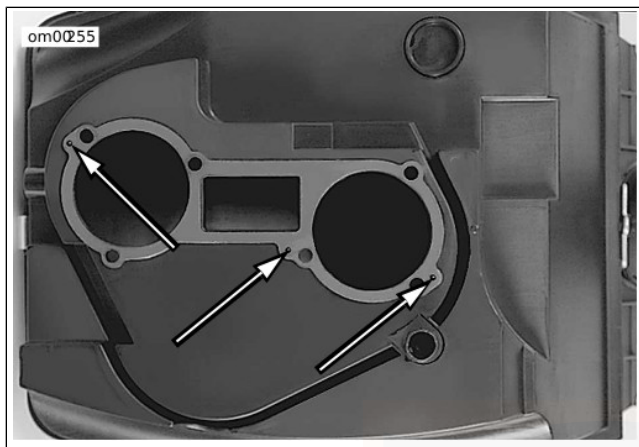

Figure 56. Air Cleaner Gasket and Alignment Pins
12. See Figure 56. Inspect the gasket on the bottom of the air box tray. The gasket is located by the three alignment pins on the mating surface.
16. See Figure 56. Align the index marks. Install the velocity stacks, the longest stack toward the front. Start all fasteners by hand first, making sure that none are cross-threaded. Tighten the three fasteners on each velocity stack to 6 N·m (53 in-lbs).